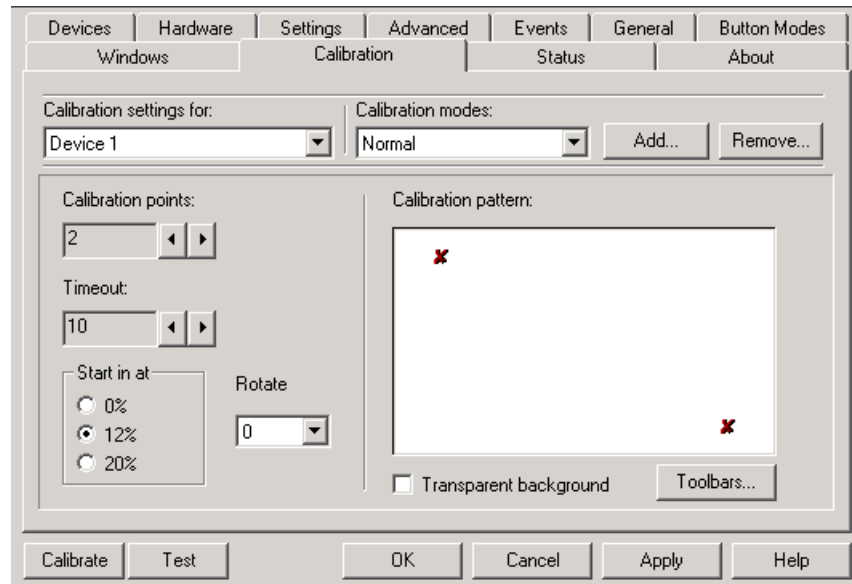

Figure 8: Touch screen utility with Calibration tab selected
2. Select the Calibration tab at the top of the dialog box (Figure 8).
To do this task...	Select this tab (Dialog box is illustrated in Figure 8)